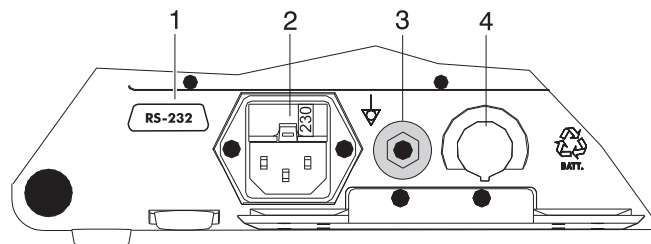

Fig. 3.1 ARGUS LCM back panel
3. Remove the mains cable from the mains supply socket (2) (see Fig. 3.1) to isolate the device from the mains.